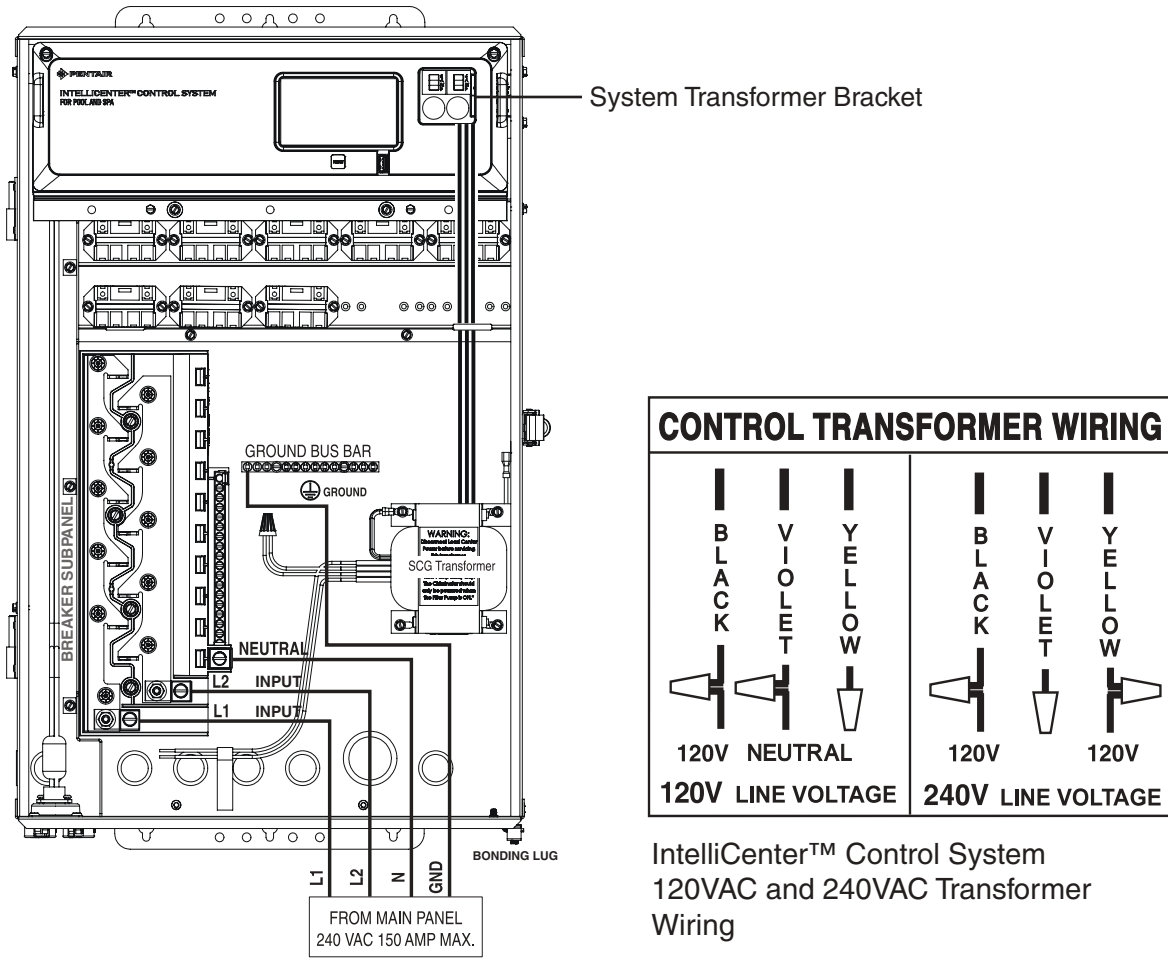

Figure 6. Wiring the System Transformer
5. Wire the System Transformer to the main Load Center or Power Center circuit breaker. See Figure 6 on page 7.